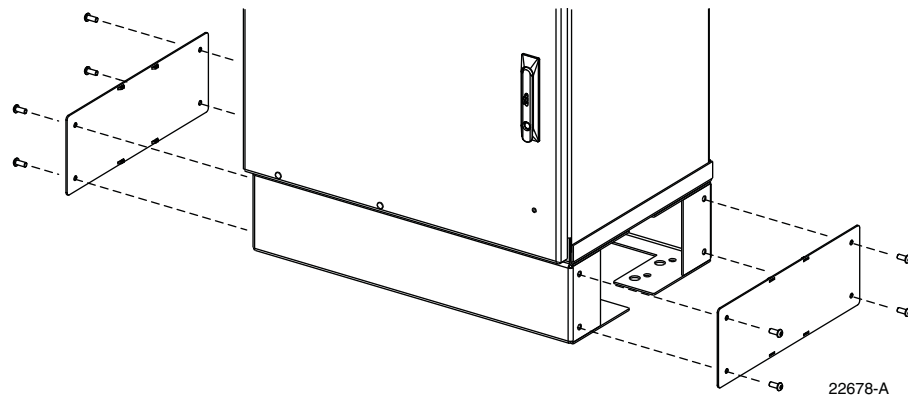

Figure 14. Removing Side Access Covers From Ground Spacer/Riser
1. Use a 3/16-inch hex-key to remove the screws that secure the access covers to the left and right sides of the cabinet ground spacer/riser as shown in Figure 14.